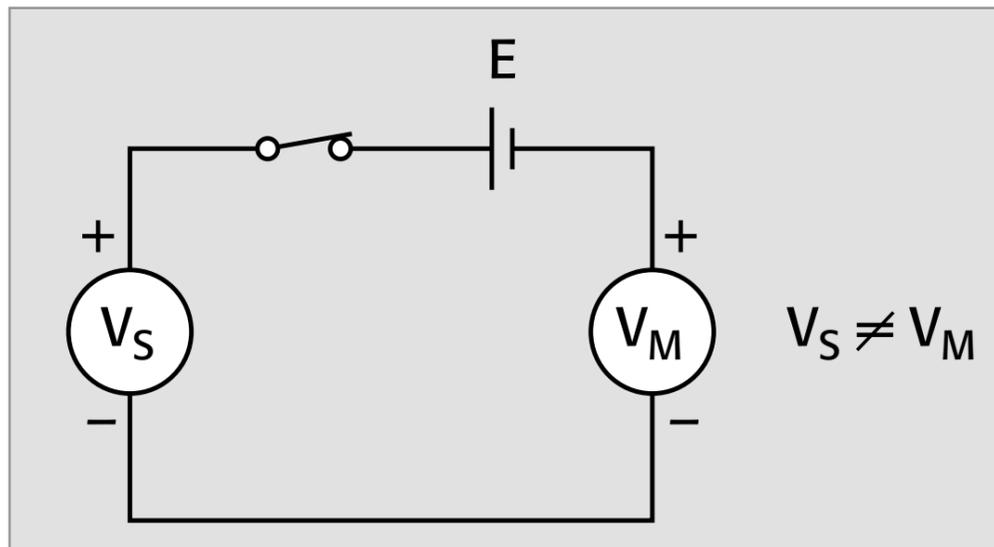

Figure 4a. Potential in loop is added to measurement
As shown in **Figure 4a**, the offset voltage (E) of a single *pole* relay is added into the circuit. As a result, the measured voltage ( $V_M$ ) will be the sum of the source voltage ( $V_S$ ) and the offset voltage (E). To minimize this offset voltage, a low voltage switch card uses a two-pole relay, as shown in **Figure 4b**. Here, the offset voltage ( $E_{T1}$ ) in the circuit HI is largely canceled by the offset voltage ( $E_{T2}$ ) in circuit LO. The contact potential of some low voltage cards is specified with the card used as a two-pole switch to take advantage of this cancellation. It may be specified as “per contact pair.” However, total cancellation cannot be achieved because temperature differences will cause  $E_{T1}$  and  $E_{T2}$  to be slightly different.